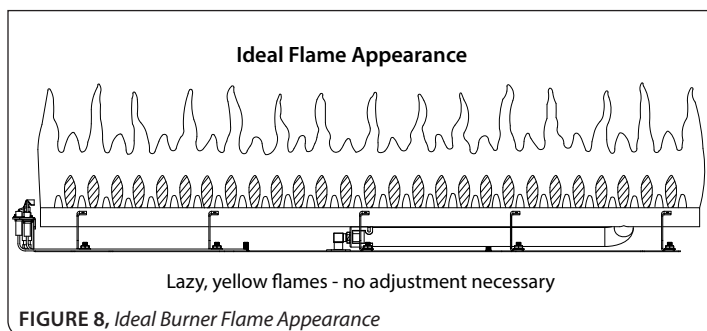

FIGURE 8, Ideal Burner Flame Appearance
- Step 5: Light the pilot and burner. Visually check the main burner flame appearance (**FIGURE 8**) for proper ignition and operation of the fireplace. Refer to the installation manual for complete adjustment procedures.